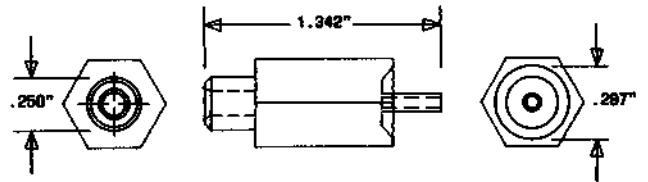

Fig. 29—KS-21873, L1, Inserting Guide Bushing Tool
2.31 KS-21873, L1: The KS-21873, L1, inserting guide bushing tool (Fig. 29) is used with the 440-type coaxial plugs.